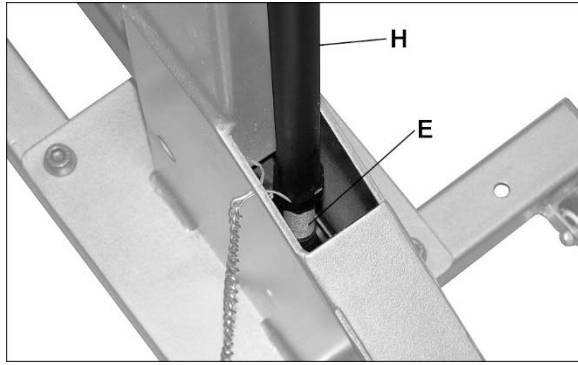

Figure 5-5
- Install link bar (H, Figure 5-5) onto link stud (E) clockwise about 15 turns.